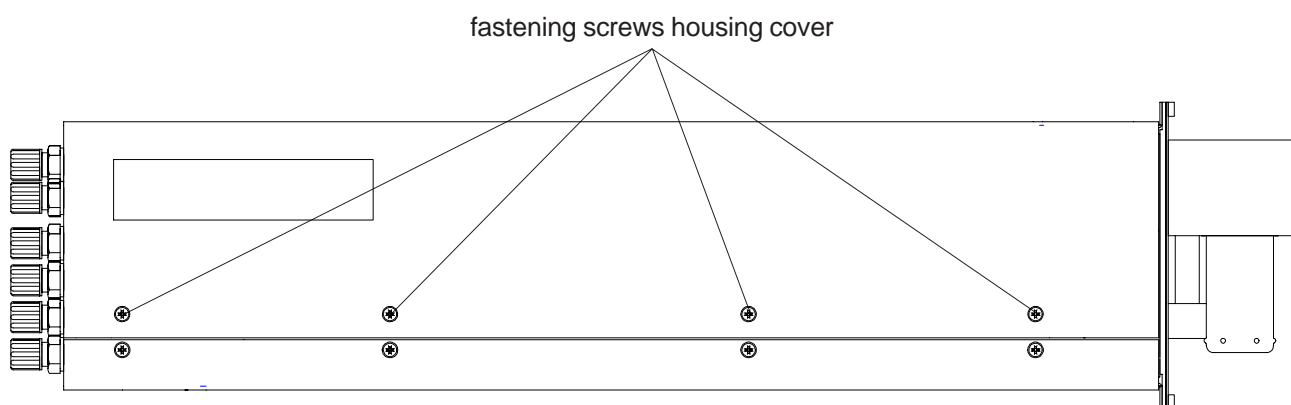

Fig. 21-1: BINOS® 100 2M
- Unscrew the respective fastening screws at both housing sides (Fig. 21-1)